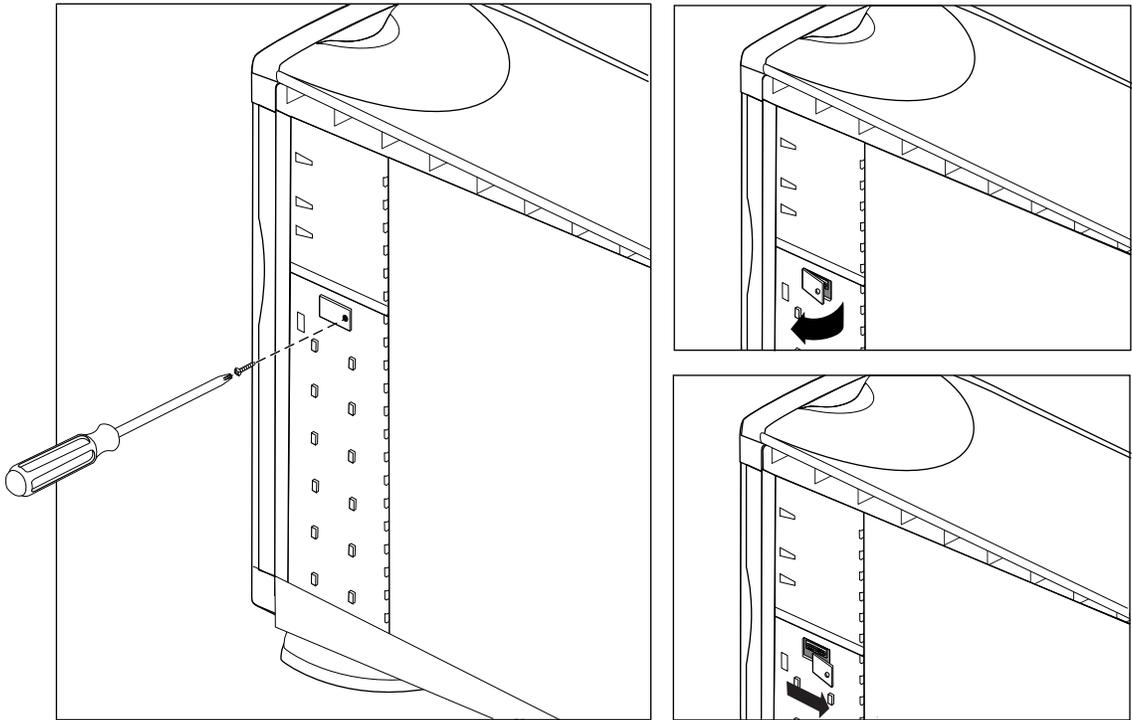

Figure 2-17 Removing the Module System Controller (MSC) Access Plate
2. Remove the module system controller (MSC) access plate, as shown in Figure 2-17